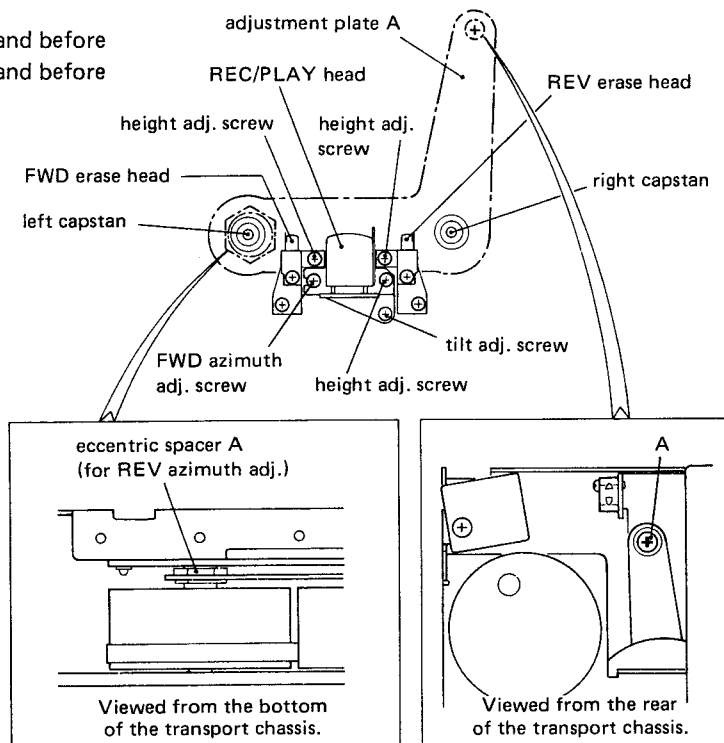
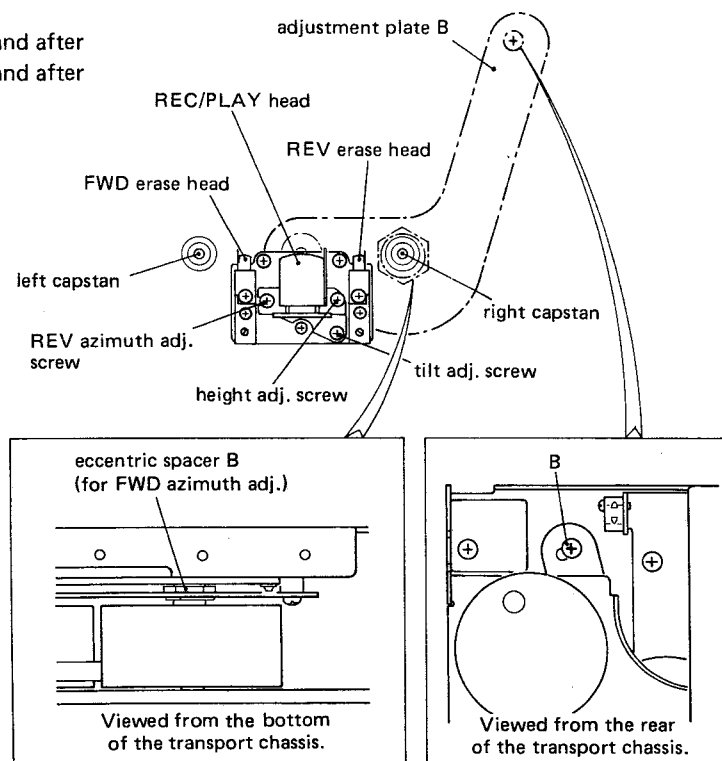

Fig. 4-3 Head construction of the older type
Fig. 4-4 Head construction of the newer type
**Notes:** 1. V-95RX/V-90R are divided into older and newer types with respect to the difference in head configuration and mounting method. To distinguish them, refer to Figs. 4-3 and 4-4. The alignment procedure is explained for the older type. For the newer type, the description below can be applied by changing the words in [ ].
15. Loosen the screw indicated by A in Fig. 4-3 [by B in Fig. 4-4].
Azimuth adjuster: Eccentric spacer A in Fig. 4-3
[Eccentric spacer B in Fig. 4-4]